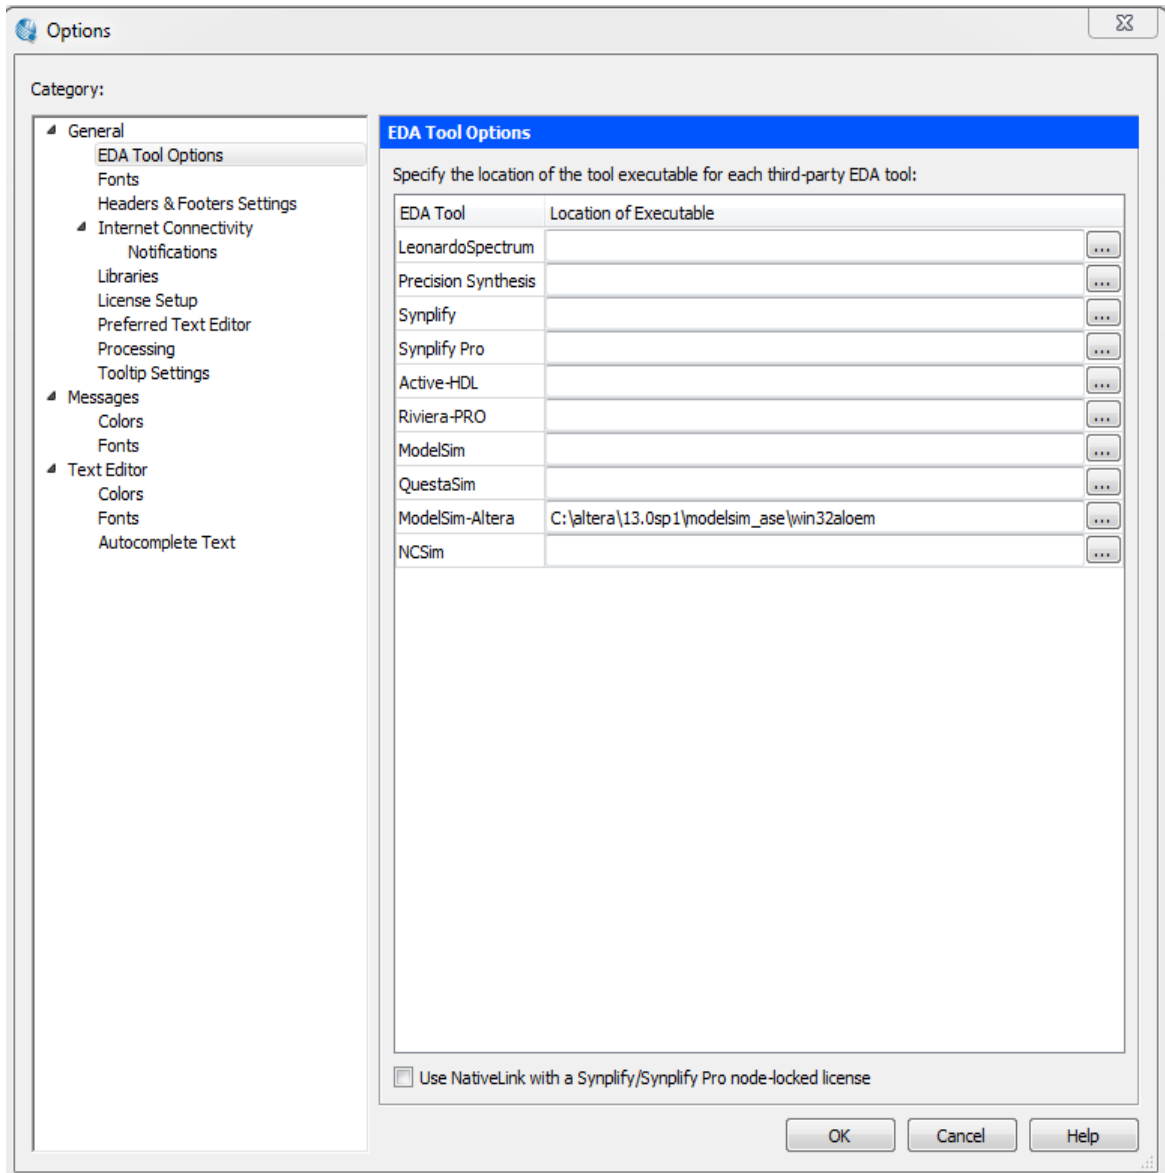

Figure 4
3. The **Options** window should look like Figure 4. In the **Modelsim-Altera** entry, the location of executable should be something like “C:\altera\13.0sp1\modelsim\_ase\win32aloem”.